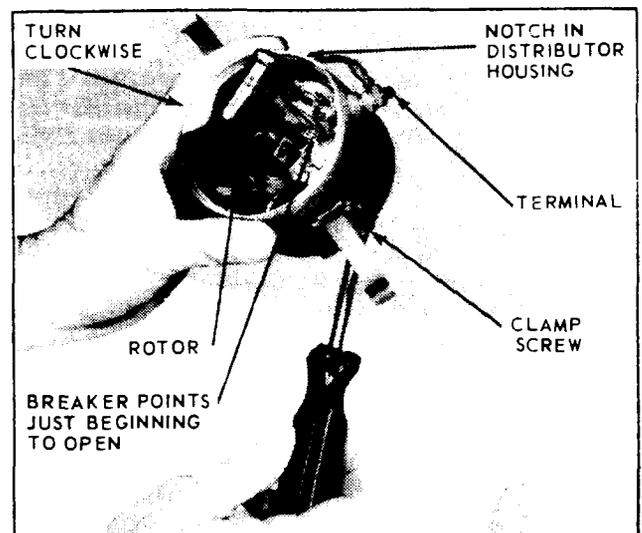

Fig. 21
1. Place rotor on distributor shaft so that center of rotor is aligned with center of notch (location of No.1 terminal tower), in distributor housing as illustrated in Fig. 21.
2. Mount distributor to housing so that notch (point ignition only) and No.1 terminal tower are in an approximate 1 o'clock location as shown in Fig. 21. Tighten advance arm mounting screw to adapter housing.
3. With the distributor clamp screw loose, see Fig. 21 turn the distributor body slightly in a counterclockwise direction until the breaker points are firmly closed. Then turn the distributor body in a clockwise direction until the breaker points are just beginning to open. At this point a slight resistance can be felt as the breaker point cam strikes the breaker point arm.